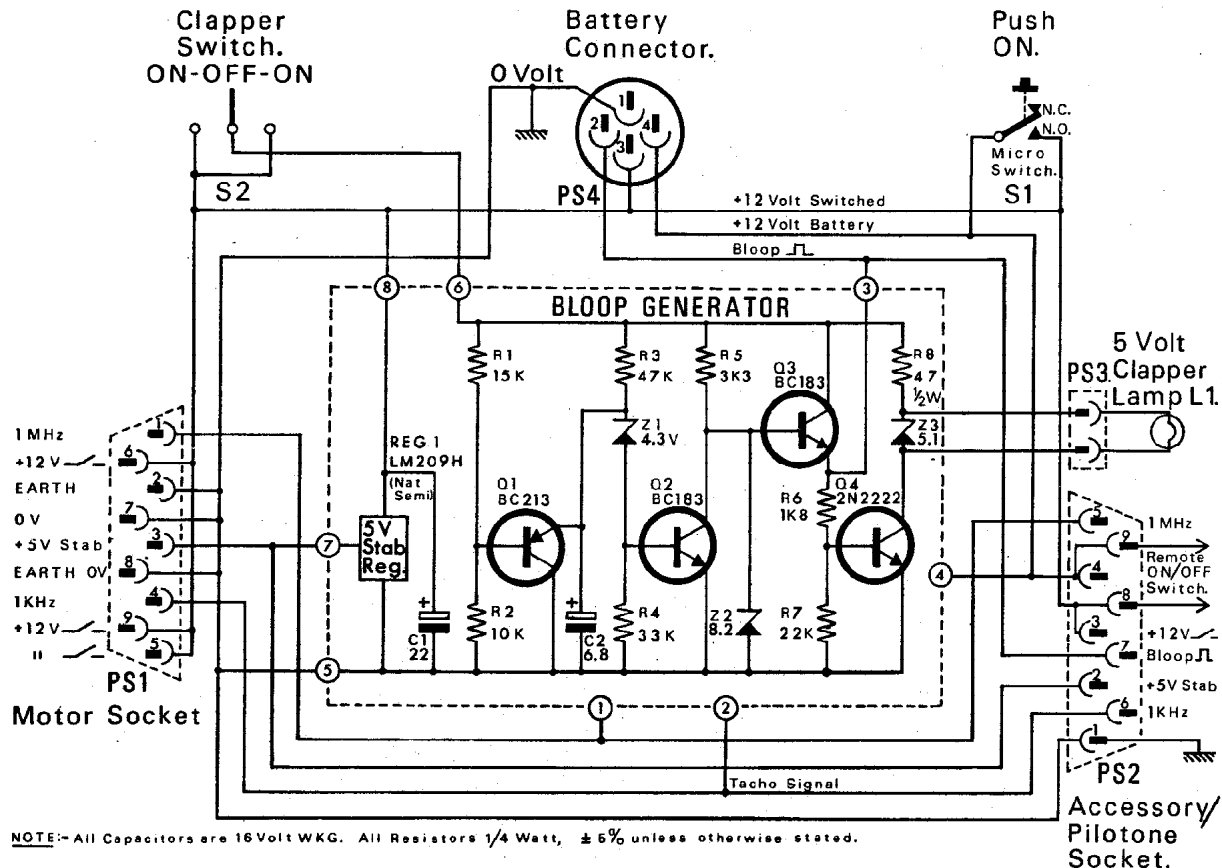

FIG. 4. EMBASE UNIT CIRCUIT DIAGRAM
6. The clapper light circuit. (fig. 4)
9. The bloop generator. (fig. 4)